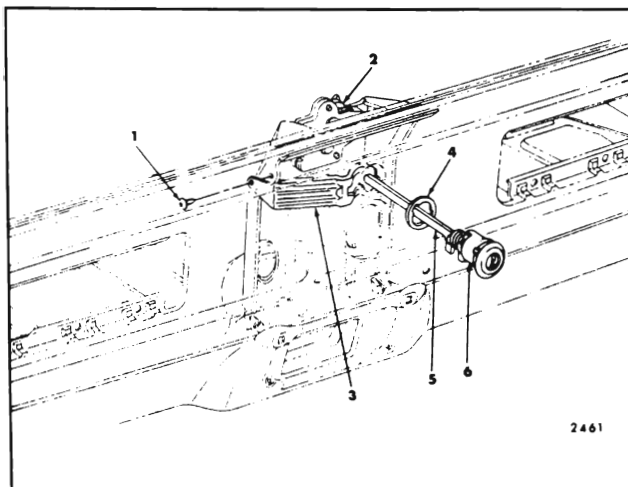

Fig. 8-11 - Rear Compartment Lid Lock Cylinder Assembly - Chevrolet "F" Style Shown
1. Open rear compartment lid and remove screw securing lock cylinder retainer to rear compartment lid lock support (Fig. 8-11).